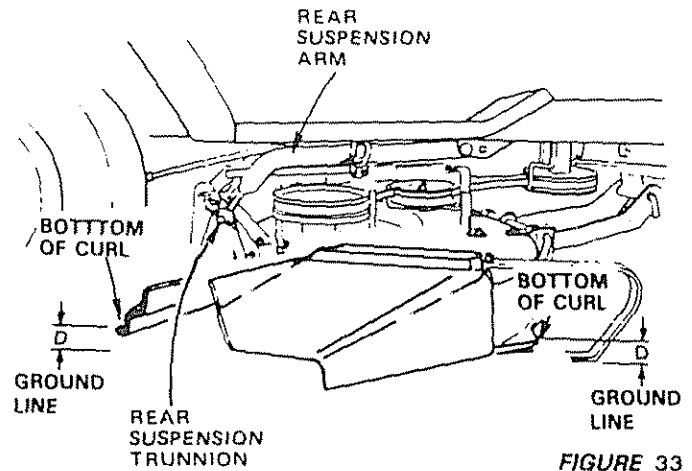

FIGURE 33
- a. To obtain the best cutting results, your mower housing should be adjusted so the front and rear flange distance "D" (Fig. 33) is 1/2" lower in front when the mower is positioned in the highest cutting position. NOTE: MEASURE DISTANCE "D" FROM GROUND LINE TO BOTTOM OF CURL ON RIGHT REAR FLANGE AND COMPARE TO DISTANCE "D" AT BOTTOM OF CURL ON RIGHT FRONT FLANGE.